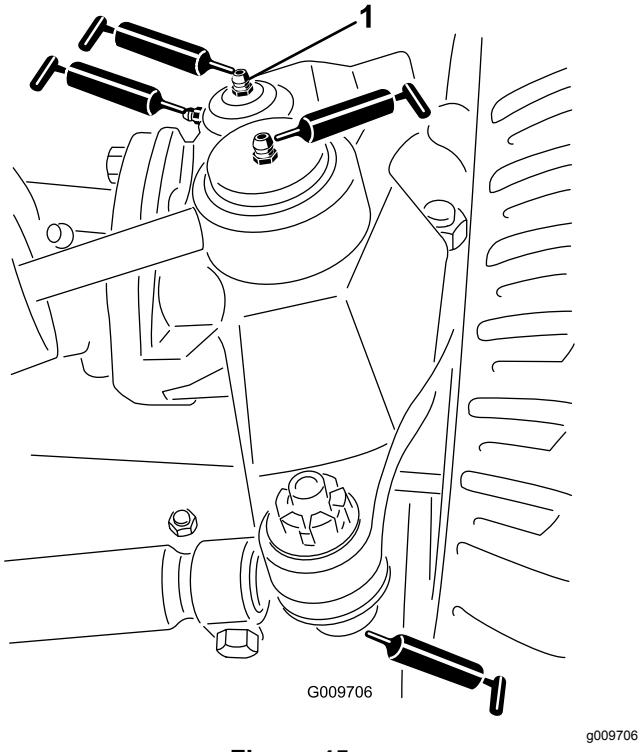

Figure 45
- Steering cylinder ball joints (2) (Figure 45)